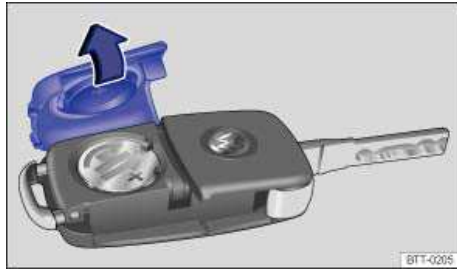

Fig. 18 Remote control vehicle key: Open battery compartment cover.
The battery is on the back of the remote control vehicle key under a cover ⇒ fig. 18.
- Position the cover as shown ⇒ fig. 18 and press it down (opposite to direction of the arrow) until you hear it click into place.